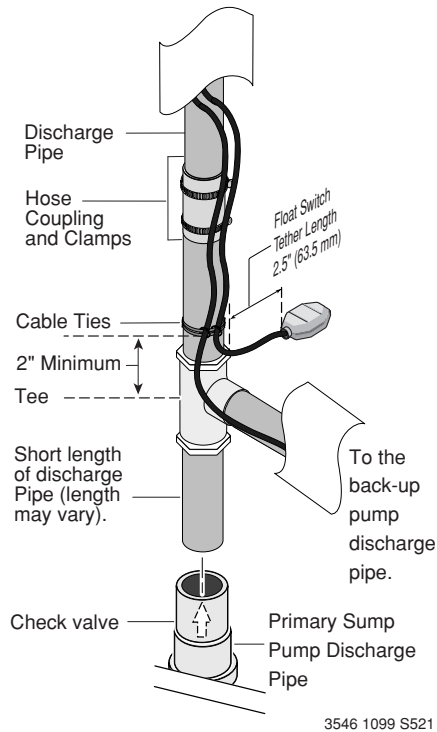

Figure 4 - Back-up pump float switch tether length and discharge pipe
10. Install a short length of pipe into the top of the check valve in the primary pump discharge. See Figure 4.
14. Mount the float switch assembly (Key No. 8) loosely to the discharge pipe with the cable ties (Key Nos. 8A & 8B). See Figure 4. Approximately 2.5" (63.5 mm) of cord length should be left between the float and the clamp. Do not tighten the cable ties. Adjustments may be needed later.